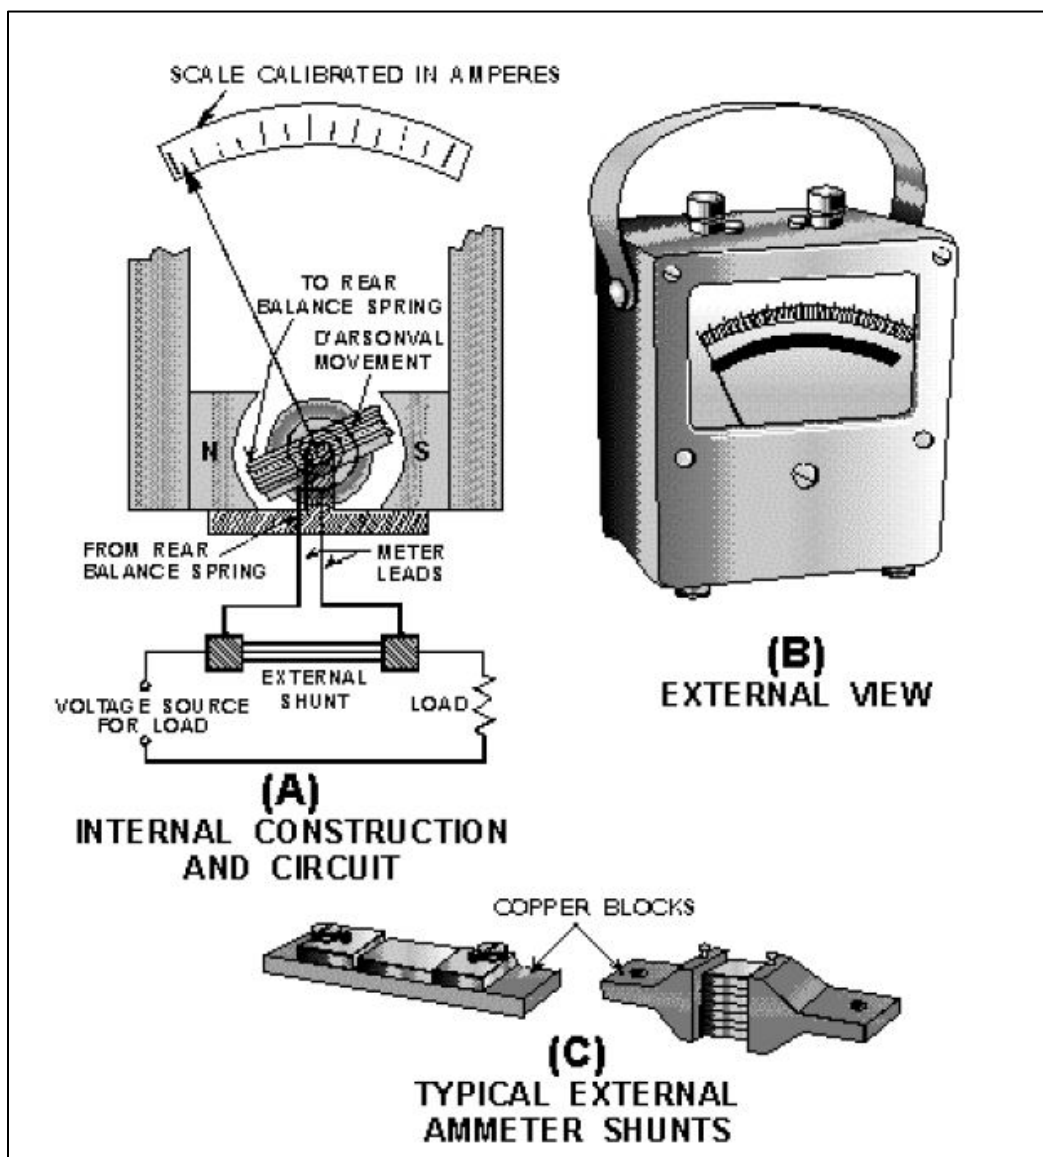

Figure 13: An ammeter employing the d'Arsonval principle and external shunts.
be marked with the maximum current value that the ammeter will measure when that shunt is used. Figure 12 shows an ammeter that is designed to use external shunts and a d'Arsonval meter movement. Figure 13(A) shows the internal construction of the meter and the way in which the external shunt is connected to the meter and to the circuit being measured. Figure 13(C) shows some typical external shunts.